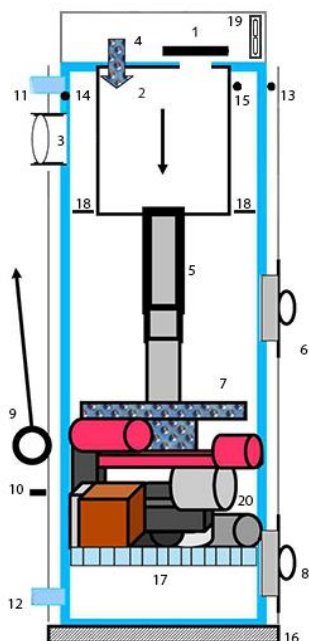
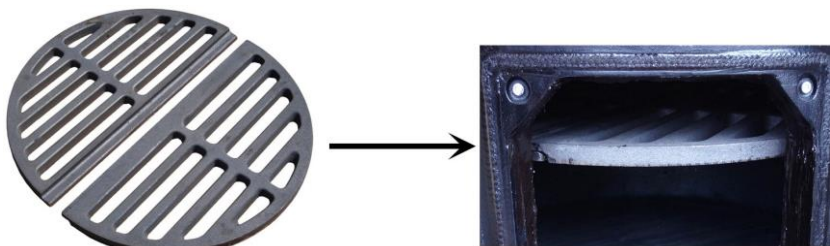
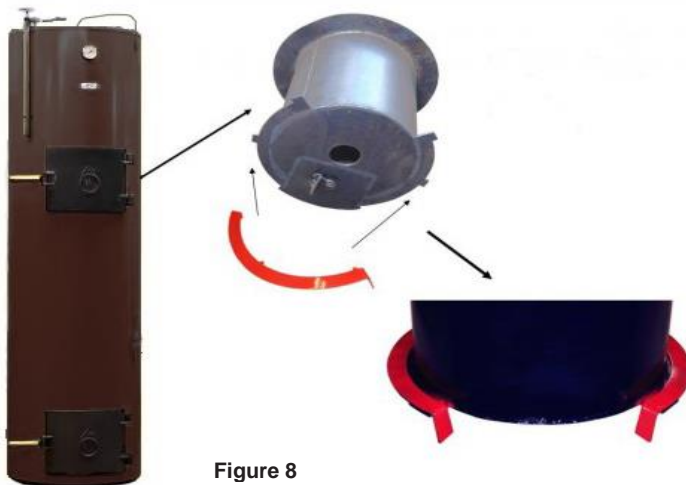

Figure 1
Figure 7
Figure 8
next to air distributor, as well as in combustion zones located near and above the distributor. Air distributor (7) (Fig. 1) rests upon the non-flammable edges. The distributor (7) (Fig. 1) must not be moved during combustion: raising and lowering the air distributor - it turns and falls deep into combustion area, making the boiler operate wastefully, wearing of quickly.
Use fire grate (17) (Fig. 1); (Fig. 7), when burning pellets, coal, peat and sawdust briquettes. It needs to be hanged on the hook, located at the bottom of the boiler, inside the lower doors (8) (Fig. 1). Fire grates (17) (Fig. 1); (Fig. 7.) can be found by opening the ash removal doors (8) (Fig. 1). This part is attached in "U" boiler for additional air to go through the air channel, which is required when burning coal or peat briquettes. In the "BIO" boiler, it is used, to completely burn the formed cinder. Put the fire grate (17) (Fig. 1); (Fig. 7), at the bottom of universal and "BIO" when burning firewood. When buying universal and "BIO" solid fuel boiler "Stropus" this part is included. Important to know when changing the fire grate is that it is composed of two separate parts.
Deflectors (crescents) 2 units (Fig. 8) are designed to increase efficiency of the boiler. After installing the boiler, we recommend putting deflectors (18) (Fig. 1) through the upper fuel loading door (6) (Fig. 1) on the bottom edge of the air heating tank.
Valve has to be mounted at the upper boiler part (14) (Fig. 1) near the flue (see 6.2; 6.3; 6.4 in connection diagrams No. 23). Cold water flowing from the water supply is connected to the automatic replenishment system, which is mounted to heating system's water return line, near the boiler.